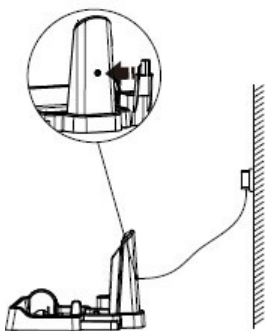

Fig. 13
- I. Insert the power adapter into the power socket, see Fig.13.